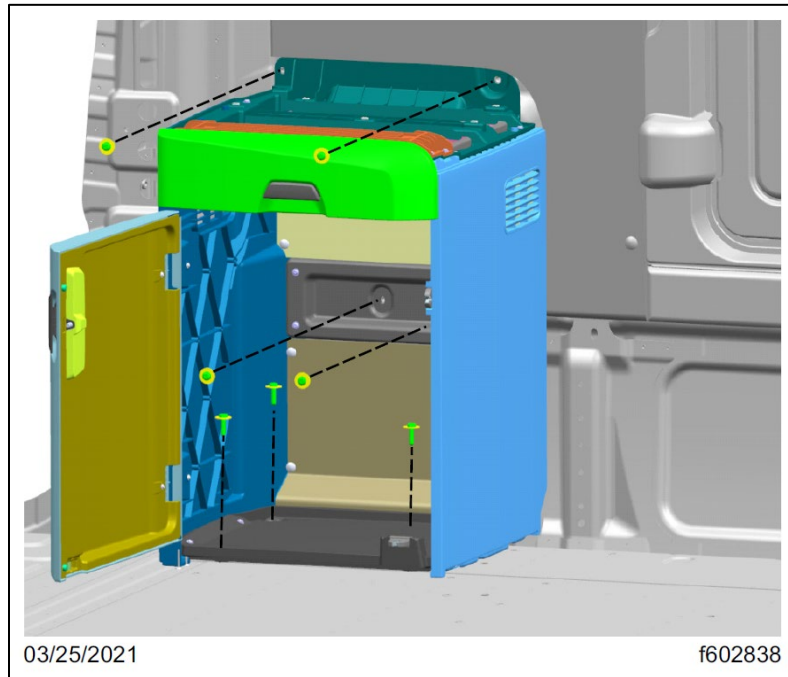

Fig. 36, Fasteners That Attach the Refrigerator Cabinet to the Cab
- 2.3. Remove the eight screws that attach the refrigerator cabinet to the cab, and then remove the refrigerator cabinet from the vehicle. See Fig. 36.